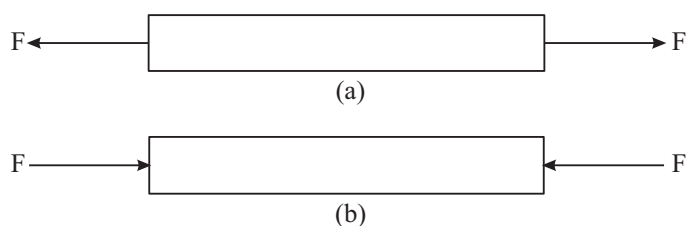

Fig. 8.3 (a) : Tensile stress; (b) Compressive stress
- (i) **Longitudinal Stress** : If the deforming forces are along the length of the body, we call the stress produced as **longitudinal stress**, as shown in its two forms in Fig 8.3 (a) and Fig 8.3 (b).